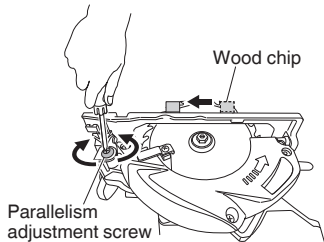

Fig. 21
- (4) Move the marked wood chip to the front of the base, and turn the parallelism adjustment screw so that the marking corresponds to the base side (Fig. 21).